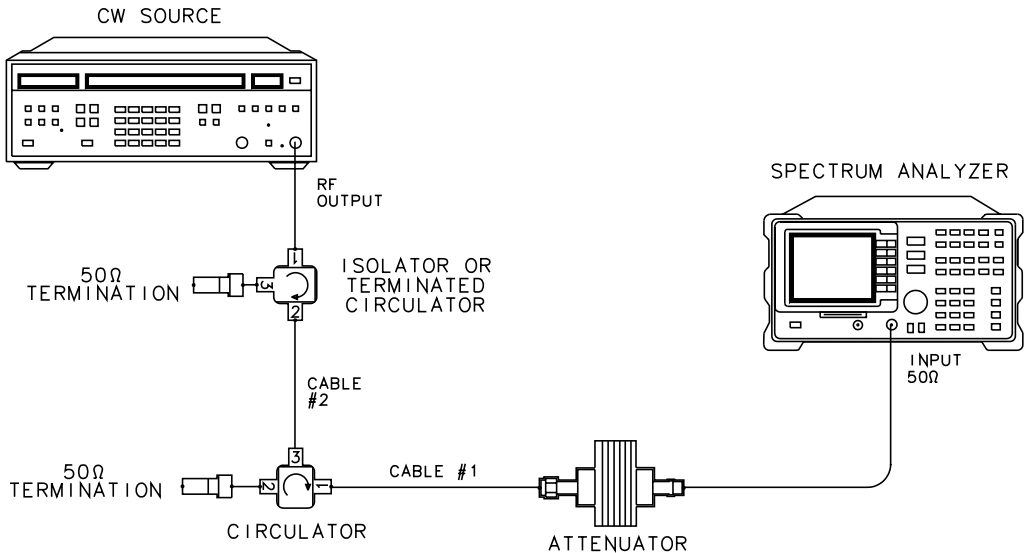

Figure 28 Test Setup for CW Source Adjustment
- 5 Read the message that appears on the display and connect the equipment as described in the text. Refer to Figure 28 on page 74 for the equipment setup.